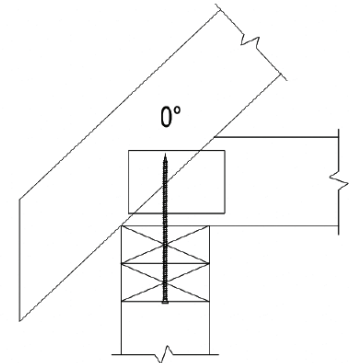
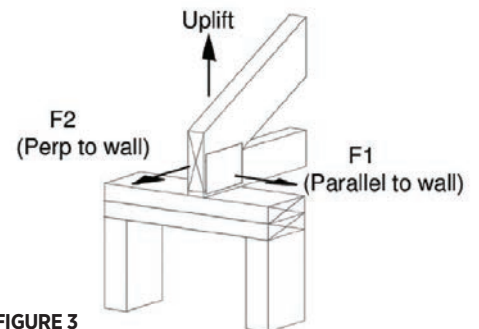

FIGURE 2
FIGURE 3
- b. Screws located between studs may be installed at a 0 degree angle (Figure 2).
Loads parallel to the wall are labeled F1 and loads perpendicular to the wall are labeled F2 (See Figure 3).
6. See Figure 2 for load directions. See Figure 3 and Figure 4 installation details
8. Install fastener at an upward angle from the vertical of 20° to 30° (22.5° is optimal) or 0° (See Figure 3 and Figure 4). For installation between 20° and 30°, design values for 22.5° may be used.